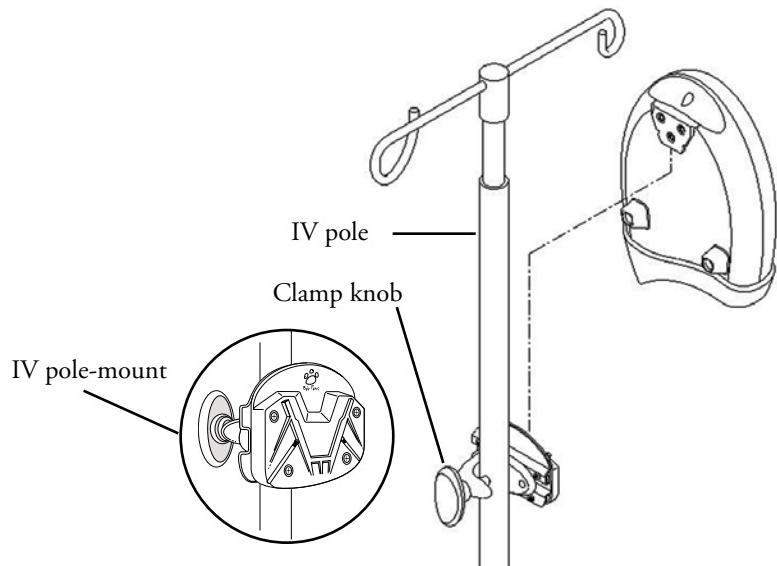

Figure 3. Installing a warming unit onto an IV pole.
2. Turn the clamp knob on the IV pole-mount clockwise to tighten the clamp to the pole (figure 3).